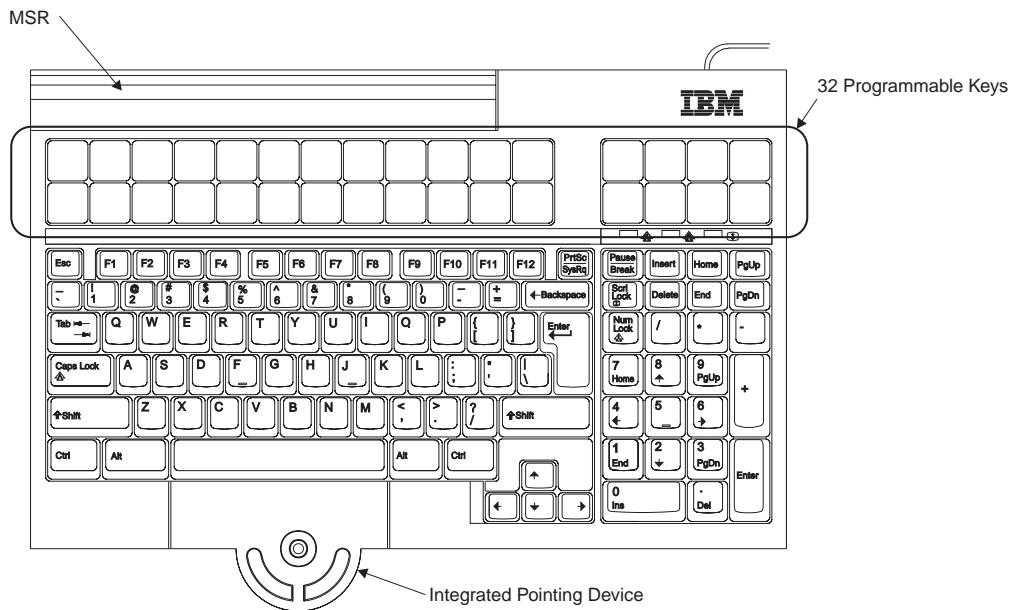

Figure 41. CANPOS Keyboard
Figure 41 shows the CANPOS keyboard and its components:
2. Disconnect the card reader cable (see Figure 41 on page 42).
3. Remove the screw holding the card reader (see Figure 41 on page 42).